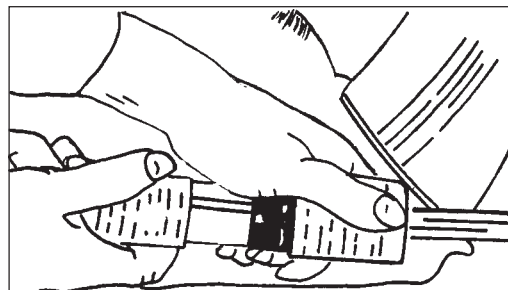

Figure 4
2. Make sure the control switch is in the "Off" position then connect the supply cable to an appropriately grounded fused circuit. Connect the supply cable to the motor pigtail. (Figure 4)